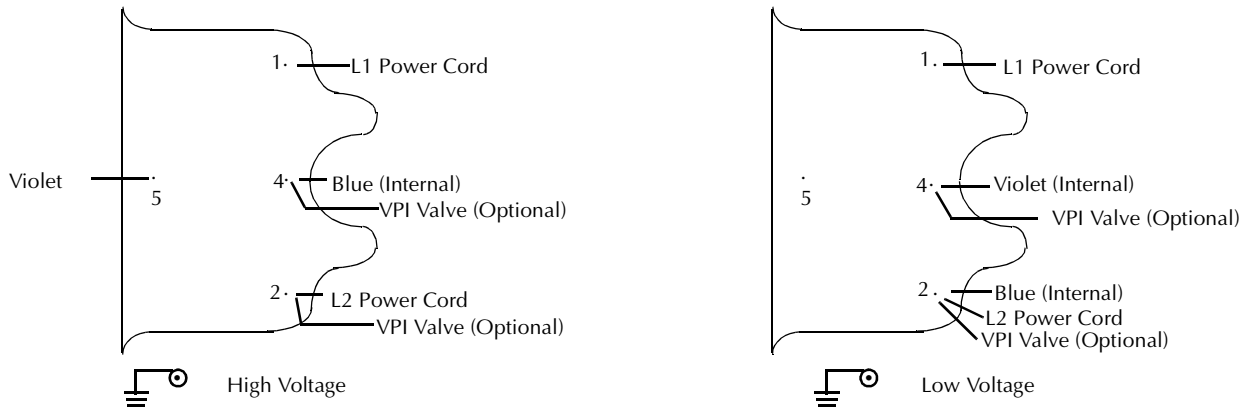

Figure 4 Motor Electrical Connections: 1 Phase Motor
3. As supplied from the factory, the single phase motor is wired for low voltage. Refer to Figure 4 to configure the motor circuit to match your supply voltage.
5. Wire L 1 and L2 per Figure 4 using right angle flag connectors or ring connectors. Make certain that no exposed wiring is in proximity to the electrical cover or to other terminals on the board.
7. Install the motor electrical cover with three (3) screws.